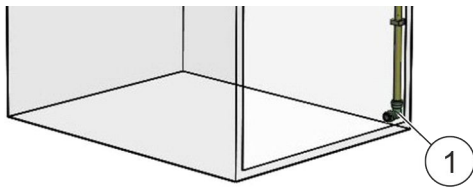

Fig. 33: Elbow and plug
3. ➔ Fit an elbow at the end of the suction pipe in the bottom area of the cabinet and close the elbow with a plug (Fig. 33/1).